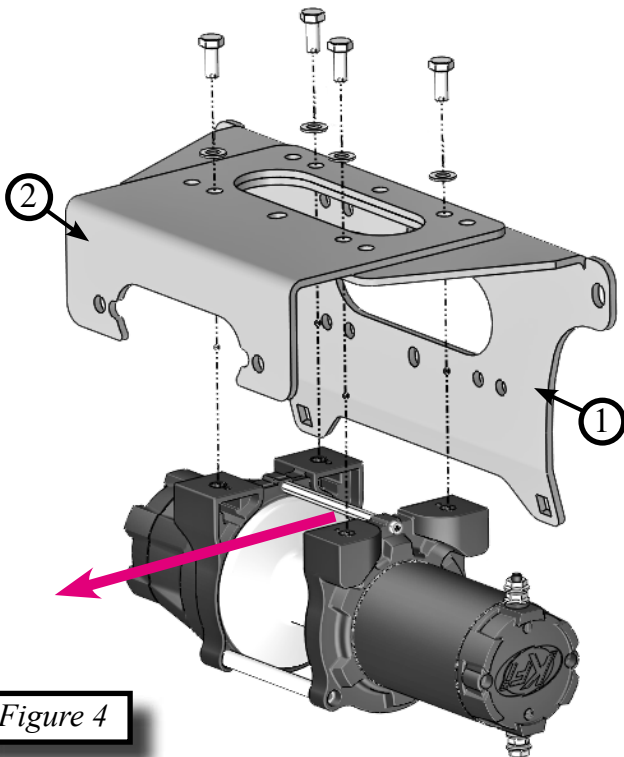

Figure 4
2. Set the fairlead mount (2) on top of the winch mount (1) lining up the holes. Loosely attach the winch upside down to the two piece mount using the bolts that came included with your winch. Make sure the cable is spooling off of the top. Shown in Figures 4 & 5.
3. If you have a 2-Hole winch use mounting holes (B). For standard winches use holes (C). For WIDE winches use holes (D). Shown in Figures 4 & 5.